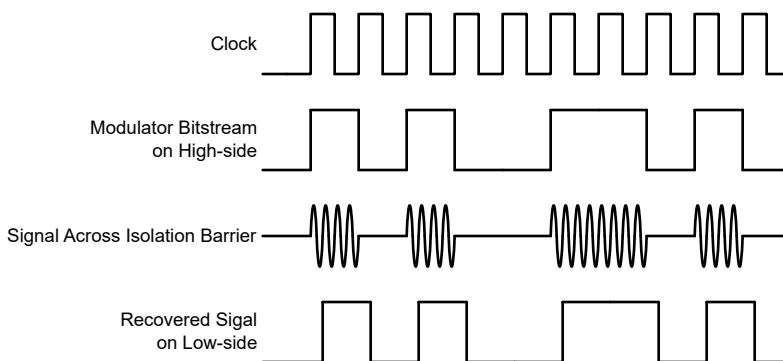

Figure 6-3. OOK-Based Modulation Scheme
The AMC3306M05-Q1 uses an on-off keying (OOK) modulation scheme, as shown in Figure 6-3, to transmit the modulator output bitstream across the SiO₂-based isolation barrier. The transmit driver (TX) shown in the *Functional Block Diagram* transmits an internally generated, high-frequency carrier across the isolation barrier to represent a digital one. However, TX does not send a signal to represent a digital zero. The nominal frequency of the carrier used inside the AMC3306M05-Q1 is 480MHz.